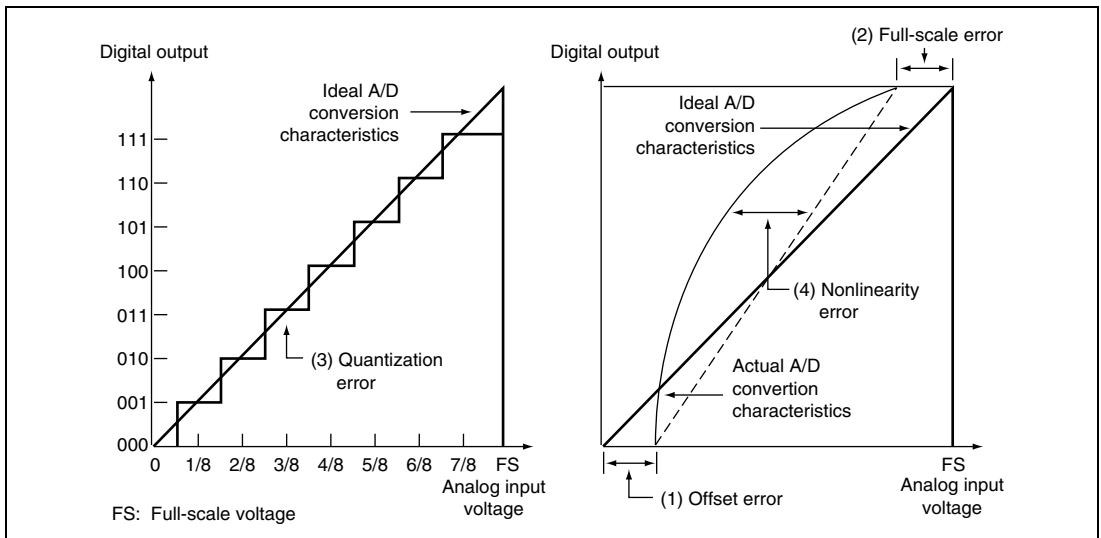

**Figure 19.10 Definitions of A/D Conversion Accuracy**
These four error quantities are explained below using figure 19.10. In the figure, the 10 bits of the A/D converter have been simplified to 3 bits.
Offset error is the deviation between actual and ideal A/D conversion characteristics when the digital output value changes from the minimum (zero voltage) 0000000000 (000 in the figure) to 0000000001 (001 in the figure) (figure 19.10, item (1)). Full-scale error is the deviation between actual and ideal A/D conversion characteristics when the digital output value changes from the 1111111110 (110 in the figure) to the maximum 1111111111 (111 in the figure) (figure 19.10, item (2)). Quantization error is the intrinsic error of the A/D converter and is expressed as 1/2 LSB (figure 19.10, item (3)). Nonlinearity error is the deviation between actual and ideal A/D conversion characteristics between zero voltage and full-scale voltage (figure 19.10, item (4)). Note that it does not include offset, full-scale or quantization error.